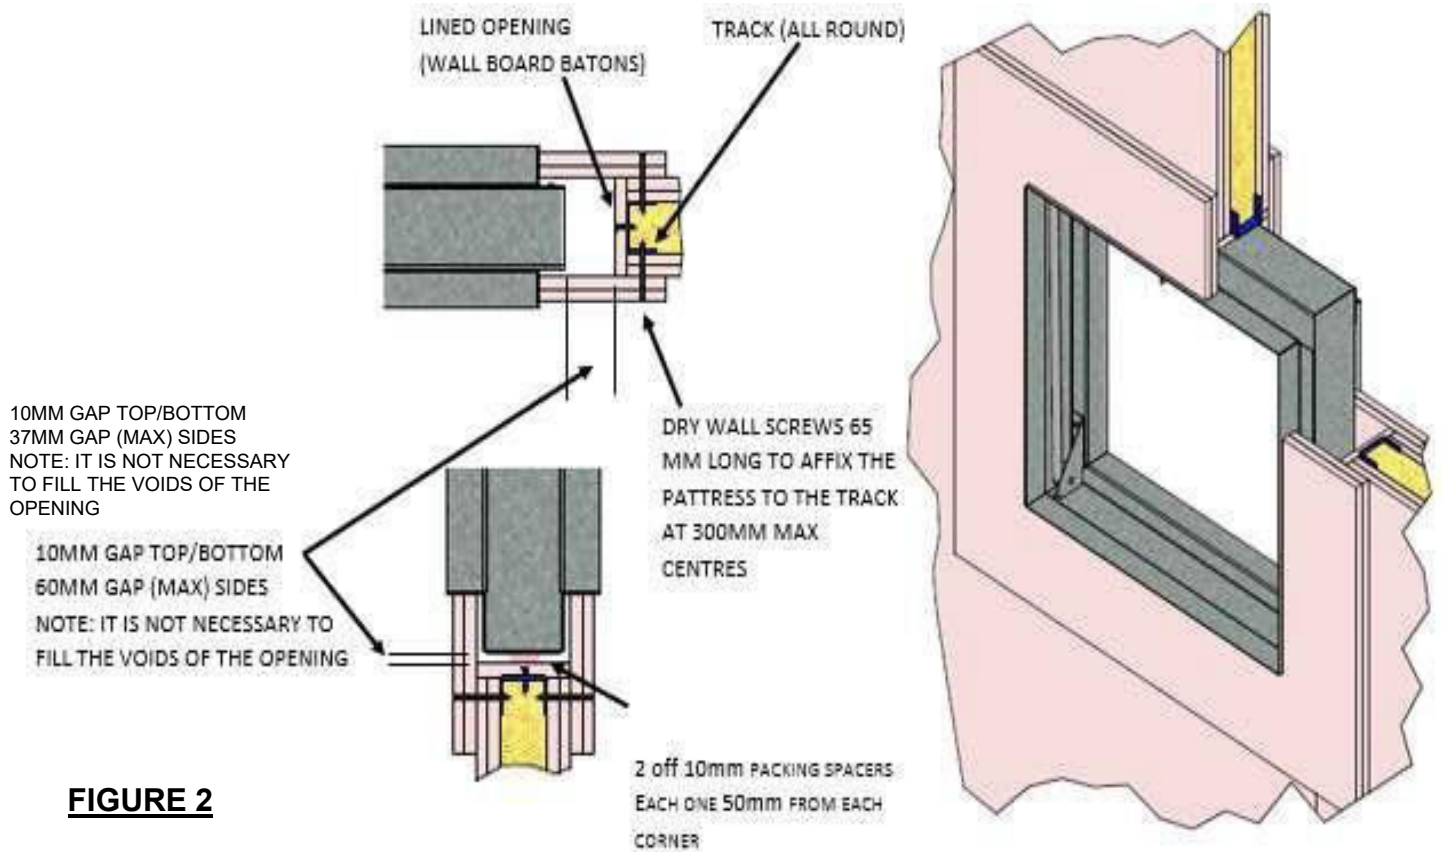

FIGURE 2
- 6.2.1 The opening must be 'lined out' 10mm (+5mm) clearance top and bottom and 37mm maximum gap per side. (see fig 2).
7 Dry wall – Pattress Fit and Cleated Damper – Fig. 2 (Refer to FD M6)